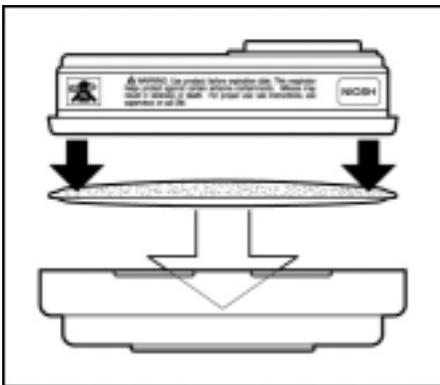

Fig. 3
1. Place filter into 501 retainer so printed side of filter faces the cartridge. (Fig. 3)